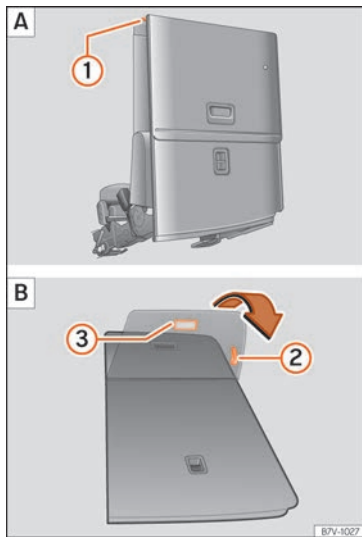

Fig. 167 Third seat row: fold down the rear seat to load A then return to position B
- If necessary, pull on the lever »» Fig. 167 ❷ to move the seat to the required position.
- When the seat is folded down, no adults or children should travel in it »» ❸.
- Remove objects from the footwell in front of and behind the rear seat »» ❶.
- Pull lever »» Fig. 167 ① back and fold the seat backrest forwards. The rear seat folds forward »» △ and the cushion also moves forward.
- Pull on the handle »» Fig. 167 ② to put the seat tray back in position.
- Pull the handle »» Fig. 167 ③. The entire seat folds backwards.